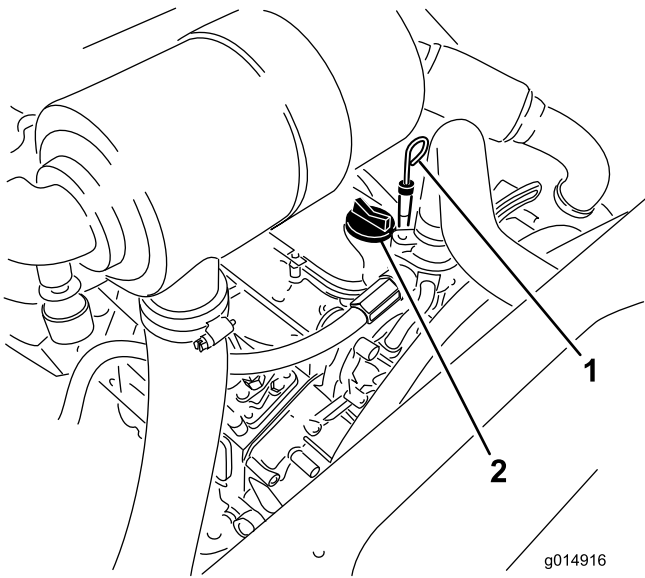

Figure 35
3. Remove the dipstick, wipe it clean, and install it (Figure 35).
5. If the oil level is below the FULL mark, remove the fill cap (Figure 35) and add oil until level reaches the FULL mark on dipstick. **Do not overfill.**